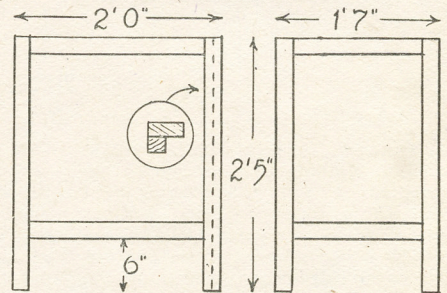

Fig. 1—Frames forming the legs
To make up the shallow tray at the rear, prepare some strips of $\frac{3}{4}$ in. by 2in. wood, and nail and glue these to the back and ends of piece (A). Another strip, this time, $1\frac{1}{2}$ in. wide, is fixed along the front of (A) to finish the tray part. These details are shown at (C), Fig. 1.
Deal can be used for its construction, and the wood should be a fair thickness, to ensure a firm and stable product. It should not be less than 1in. thick, which means $\frac{3}{4}$ in. when planed. At Fig. 1 a view is given of two of the three frames necessary to support the table top. The left side one is the back frame.